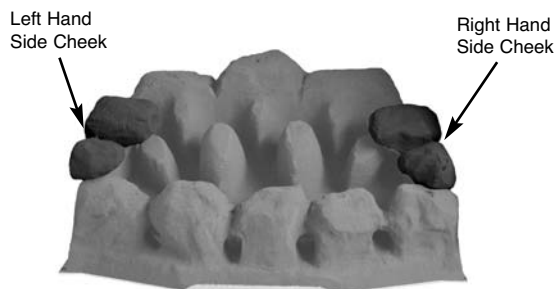

Fig. 23
3. Place the side cheeks into position, making sure they are positioned either side of the fuel bed and the overhang is at the front. The outside edge should be in contact with the radiant box ceramic liner. Ensure that the lower part of the side cheeks sit on the front coal (Fig. 23).